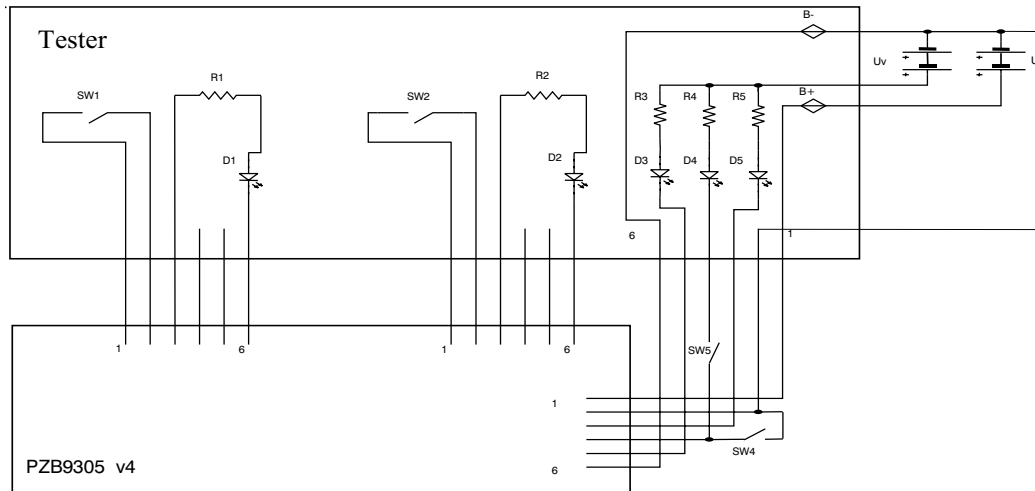

Figure 13: *Scheme for connection of ПЗБ2х 64 testing equipment*
Connect testing board with *ИЗБ2x 64* board according to figure 13.
After connecting performed in accordance with figure 13, switch off SW1- SW5 switches and DIP switches on *ИЗБ9305 64* board (SW1-SW3 switch to position "0", SW4 to position 1.8 V/cell and SW5 into position B4).
- testing board, according to scheme in figure 13;